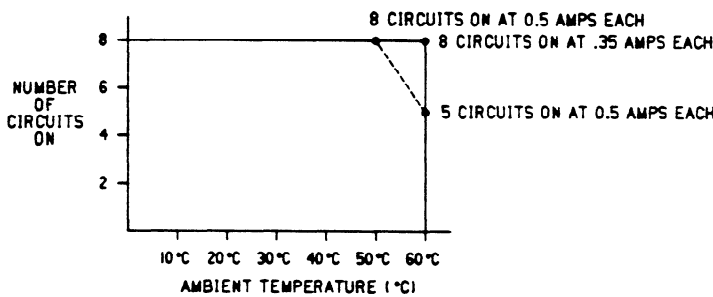

Figure 6-20. I/O Points vs Temperature Chart
* Max. load current is dependent upon ambient temperatures as shown in fig. 6-20.